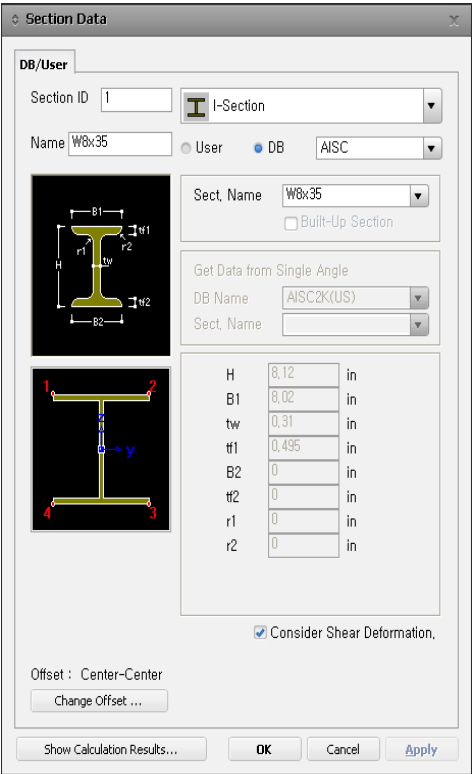

Figure 1.8 Section Data
9. Confirm the **DB/User** tab on the top of the **Section data** dialog box (Fig.1.8–).